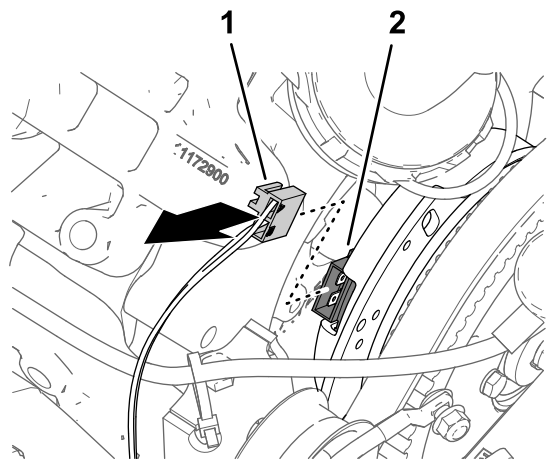

Figure 165
1. Disconnect the 2-socket connector of the machine wire harness labeled SPRAY PUMP COIL from the 2-pin connector of the alternator (Figure 165).